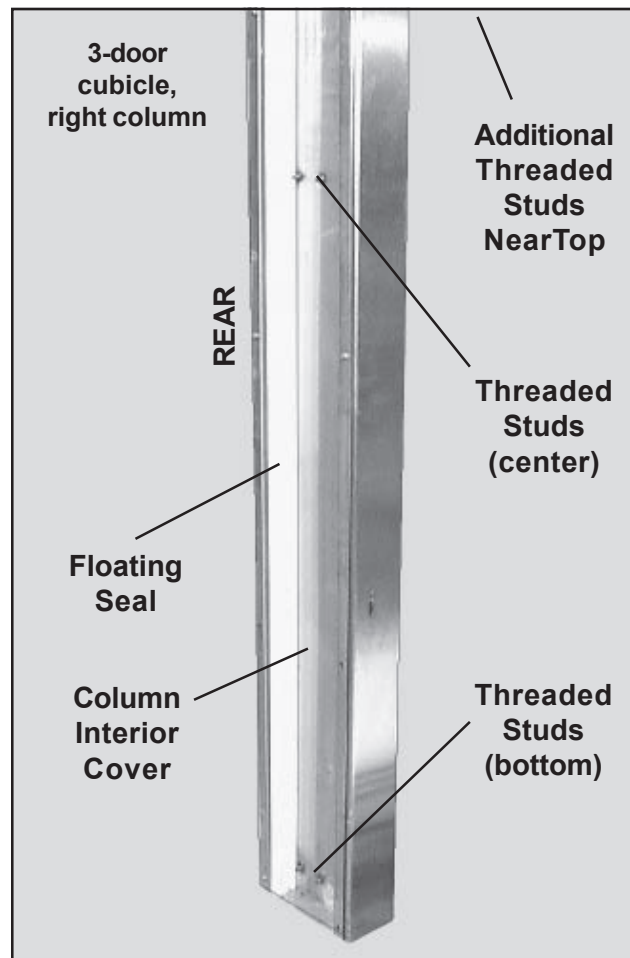

Figure 21. Rear Floating Seal in Place
2. Place the rear seal in the rearmost position in the column interior cover (Figure 21). The grooves in the seal should face forward with the small groove toward the opposite column. **Note:** The seal is not fastened in place yet and may bow out slightly.
**Note:** There are three sets of threaded studs on each column interior cover (Figure 21): one set near the top; one set near the bottom; and one set approximately in the center. These threaded studs are the mounting points for the seal retainers. On 3-door cubicles there are three studs in each set; on 4-door cubicles there are four studs in each set. The seal retainers hold the floating seals in the columns.